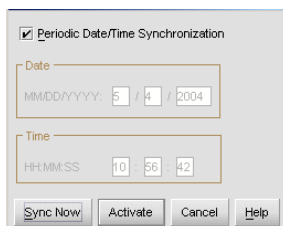

Figure 17 Configure Date and Time Periodic Synchronization dialog box
- **Date/Time**—Displays the Configure Date and Time dialog box, as shown in Figure 17 on page 60.